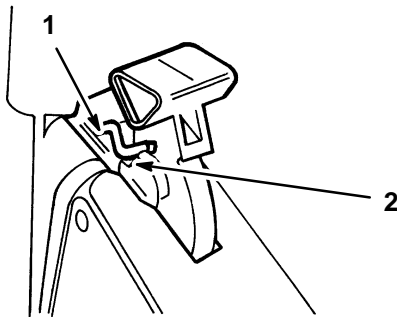

Figure 7
5. Pull the handle rearward until the handle latch locks in the notch in the bag door latch (Fig. 7).